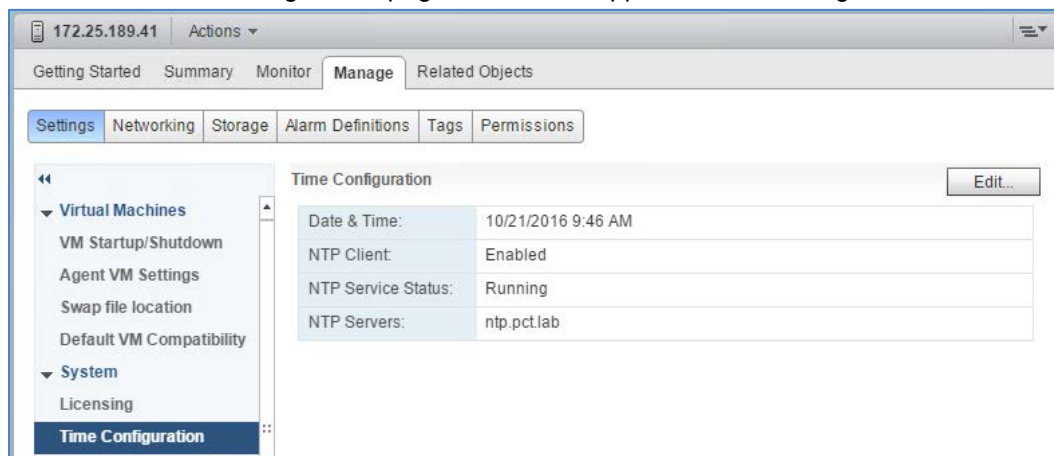

Figure 19 Proper NTP configuration on ESXi host
3. In the center pane, go to **Manage > Settings > Time Configuration**. If the information shown is correct (see Figure 19), skip to step 7. Otherwise, continue to step 4.
6. The Time Configuration page for the host appears similar to Figure 19: